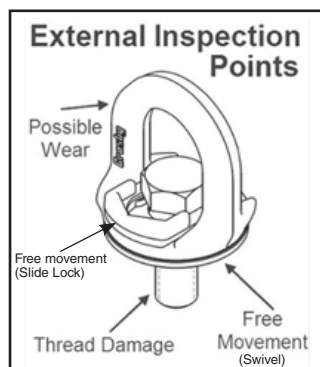

Figure 3
- Always ensure free movement of bail. The bail should swivel 360 degrees. (Figure 3)